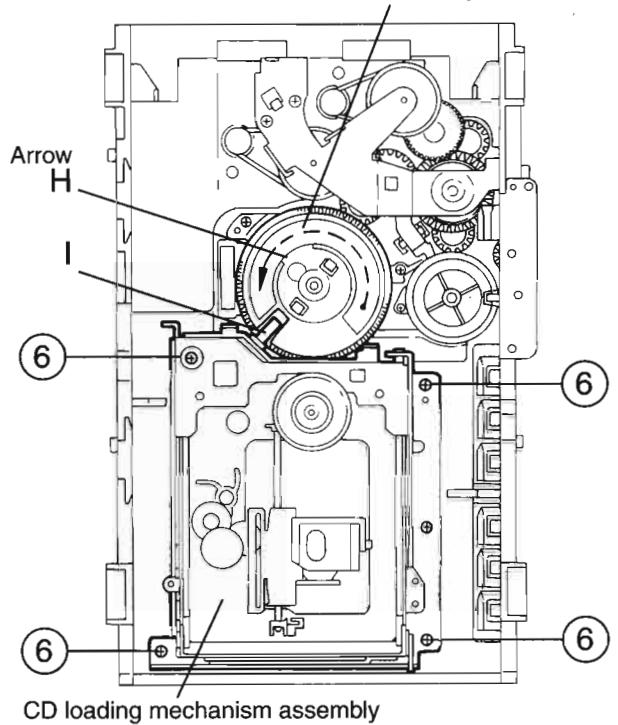

Fig.10
■ Removing the CD loading mechanism assembly (See Fig.10)
1. While turning the cams R1 and R2 assembly in the arrow direction "H", align the shaft "I" of the CD loading mechanism assembly to the position shown in Fig.10.